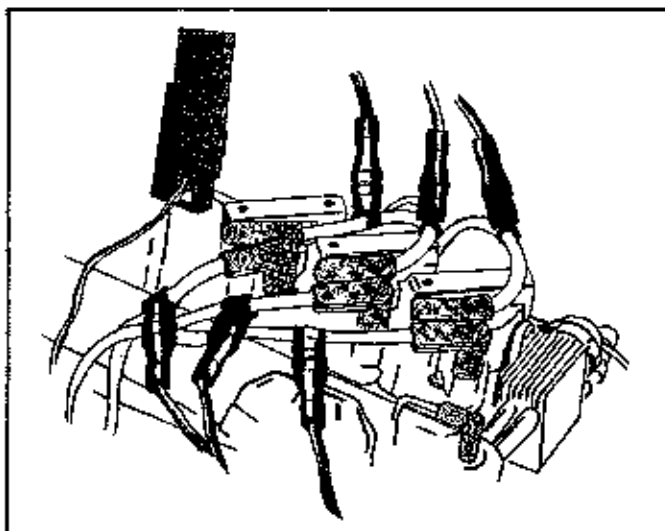

Figure 14
D.I.S. Secondary Probe Assemblies (see Figure 14) - There are two secondary probe assemblies. One assembly is positive (red); one is negative (black). Each assembly has four small clips. These must be clipped securely around each spark plug wire on the test vehicle. On 4- and 6-cylinder systems, some clips will be dangling free. Make sure they are not touching engine block or any other wires.